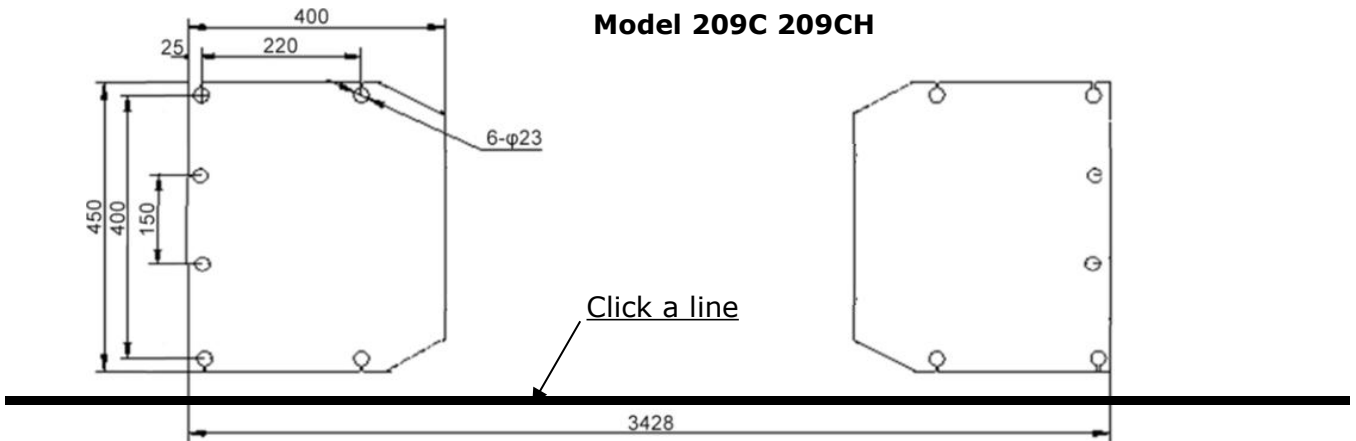

Fig. 6
B. Use a carpenter's chalk line to establish installation layout of base-plate (See Fig.6).